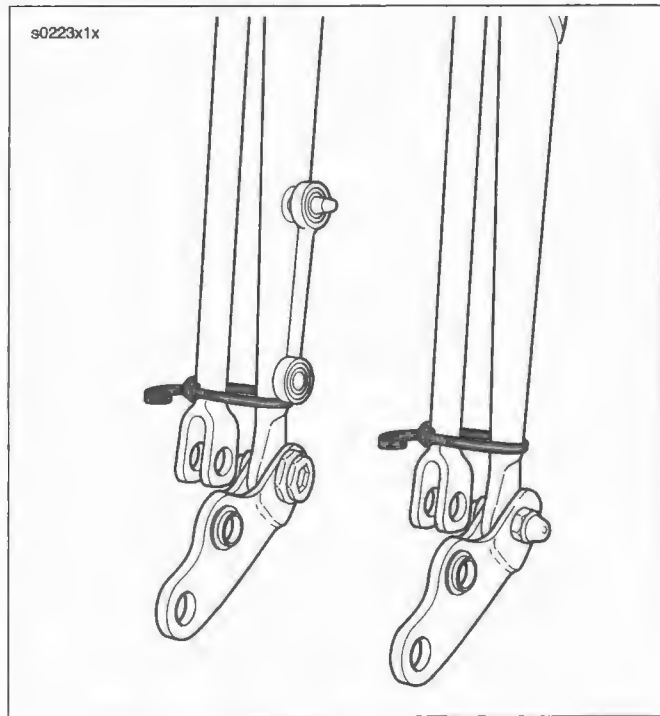

Figure 2-95. Nylon Ties on Fork Legs
See Figure 2-95. Use nylon cable ties around the rigid and spring fork legs to hold them in place. If the spring fork legs are not held in place, next to the rigid fork legs, the spring pressure will snap them forward with great force, which could result in death or serious injury.
3. See Figure 2-95. Use cable ties to tie wrap the fork legs in place as shown.